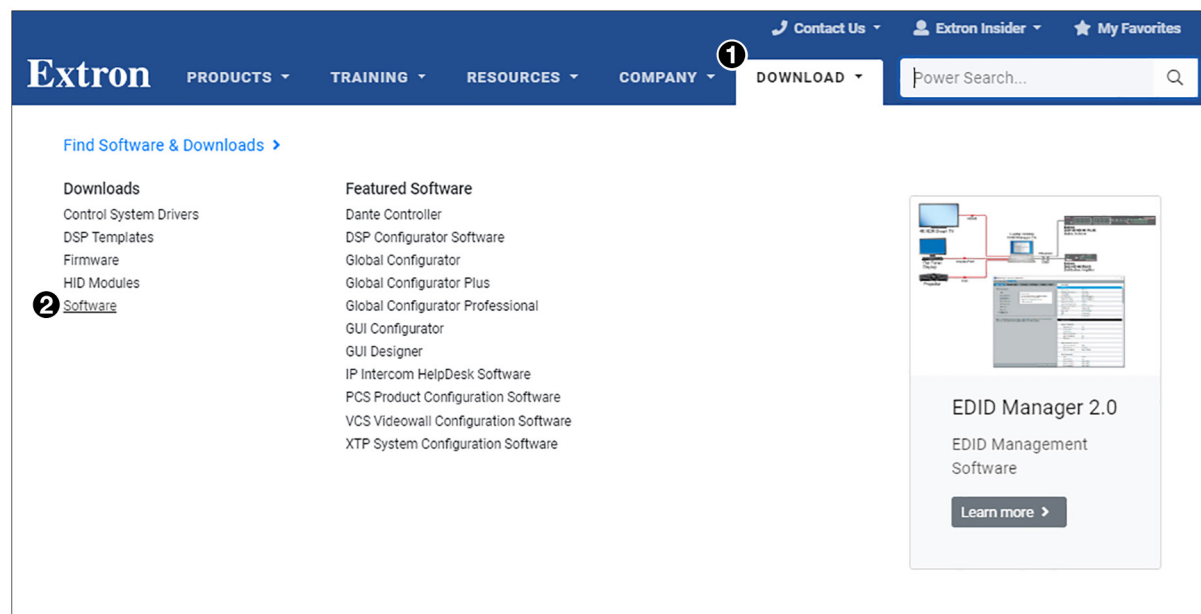
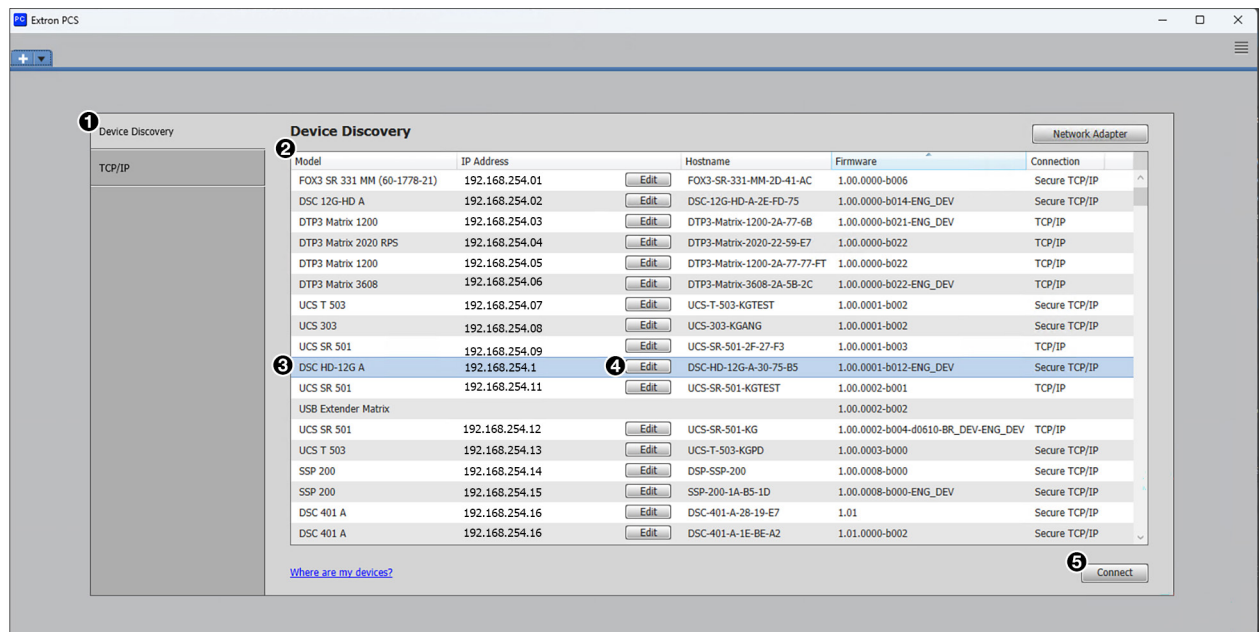

Figure 26. Download Center Page on the Extron Website
Figure 27. PCS Links on Software Download Center Screen
1. On the Extron website, select the **Download** tab (see figure 26, ①).
2. Move the pointer to the **Software** link (②) in the Downloads column and click it.
- On the Download Center screen, click on the down arrow in the **Search Software** box to see a list of the downloadable software (see figure 27, ❶). If you need an Extron Insider ID number to access this box, contact your Extron representative.